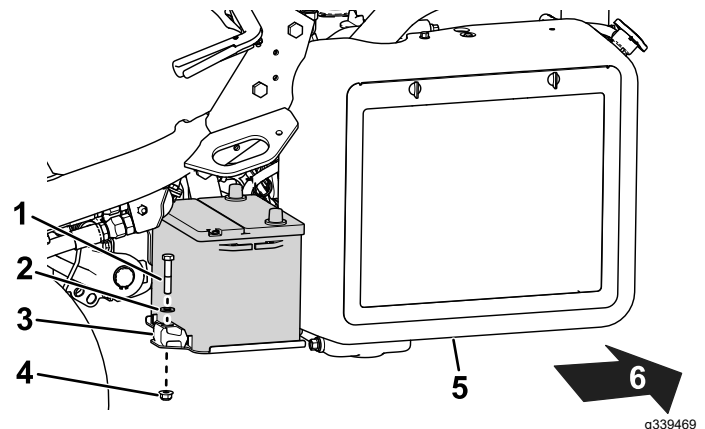

Figure 41
2. Remove the fasteners that secure the battery to the tray (Figure 41) and lift out the battery.
5. Place the battery on the battery tray and secure it with the previously removed fasteners (Figure 41).